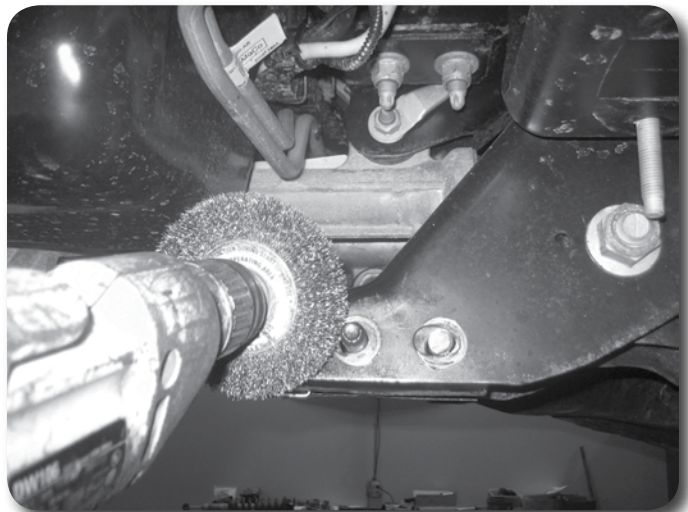

Figure 12
23. 2009 models only: Take a wire brush and remove the material from the threads of the four bolts that attach the OE rear crossmember. Spray threads with lubricant and remove the bolts and crossmember from the vehicle. Discard the crossmember and hardware. **Figure 12**